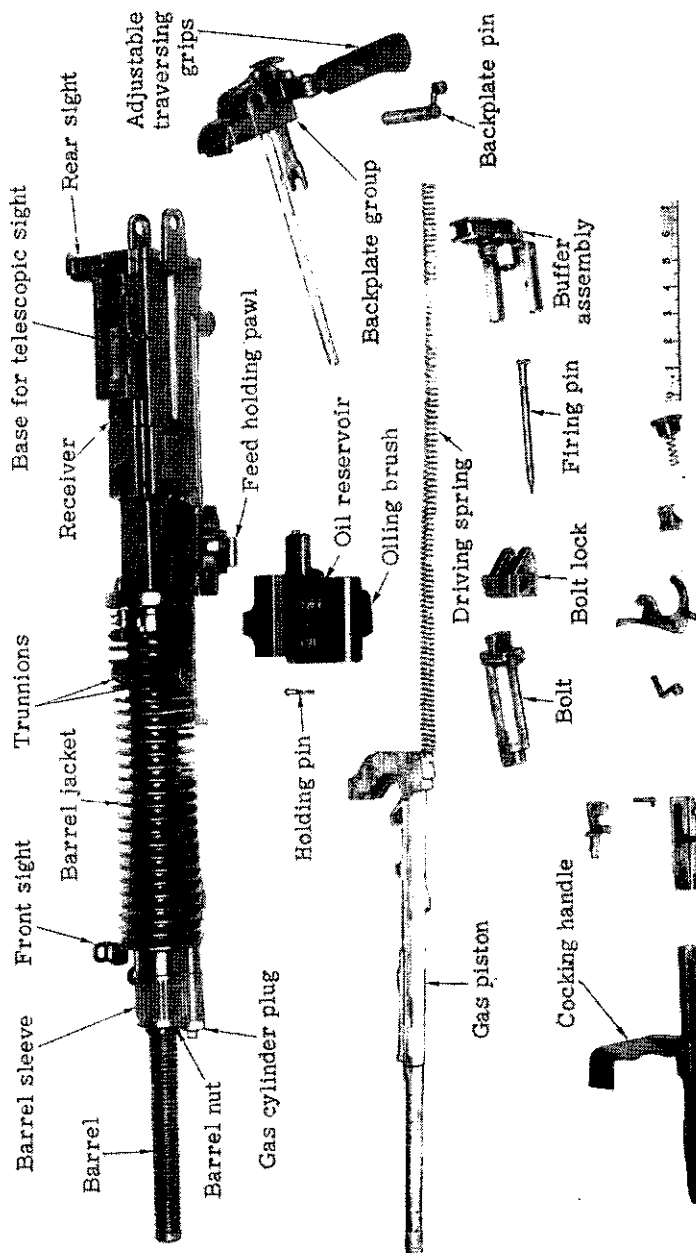

Figure 76.—Model 92 (1932) 7.7-mm heavy machine gun disassembled.
(2) *Stripping* (fig. 76).—(a) *Backplate.*—Remove the backplate pin by turning it down to a vertical position and then pulling it out, holding it in place against the pressure of the operating, or recoil, spring. Then remove the backplate group and operating spring.